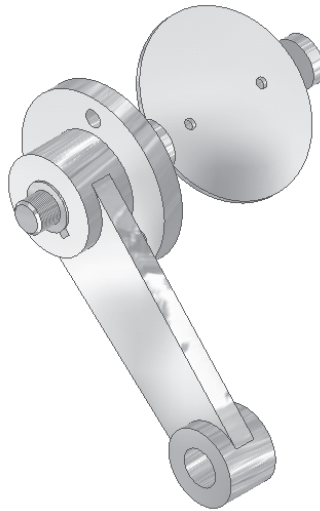

Figure 8-45 Assembly after assembling the Plate
12. Select the other hole on the flat face of the Shaft to apply the constraint. Choose the **Apply** button and then choose the **Cancel** button to exit the dialog box. The assembly, after assembling the Plate, is shown in Figure 8-45.